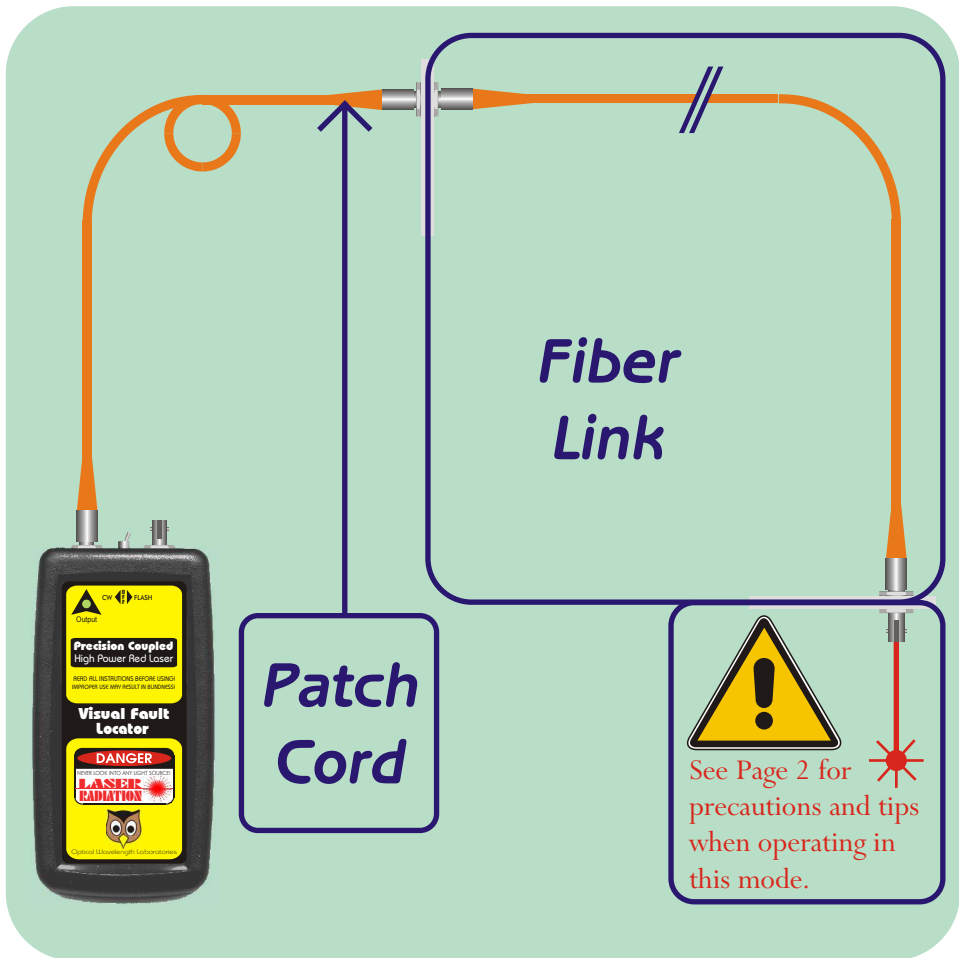

Figure 1 - Visual Fiber Identification
**Visual Fiber Identification** (*Figure 1 - Visual Fiber Identification Configuration - Page 4*)
- (1) Connect the PCVFL to the fiber you are testing via a patch cord as shown in Figure 1.
- (2) Power ON the PCVFL into visual fiber identification mode by flipping the switch to the right. This mode emits a flashing beam of high-intensity red light into the fiber.
- (3) Identify the fiber by looking for the flashing red light emitting from the fiber connector at the other end of the link.